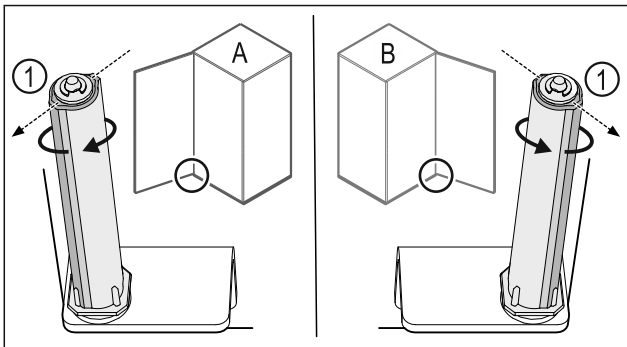

Fig. 38 Left-hinged (A) / Right-hinged (B)
- ▶ Turn the closing system against the resistance until the bar of the closing system Fig. 38 (1) points outwards.